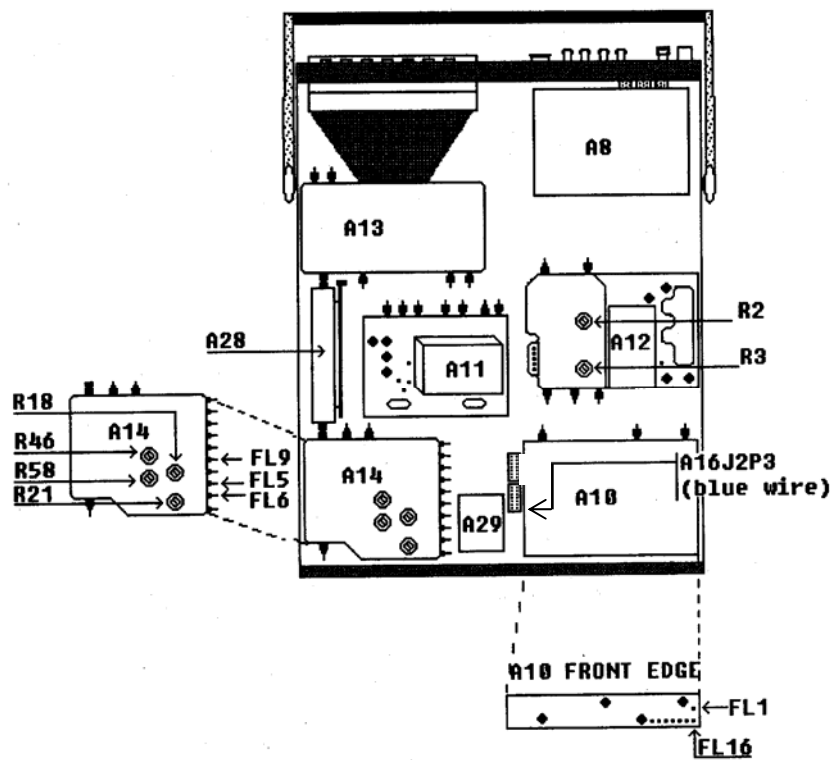

Figure 5. Test instrument - bottom view.
A12R2 and A12R3 (fig. 5) are interactive and adjustment will be extremely sensitive.
- (32) Alternately adjust A12R2 and A12R3 (fig. 5) on receiver IF module for minimum amplitude of the 1st LO signal -50 dBm maximum (R).
(4) Stand TI on end and locate power term, A14 (fig. 5) in lower left hand corner.
(5) Press **MODE MTRS** (Meters Menu) key and **DATA ENTRY 3** key (Pwr Meter (Pulse/CW)).
(6) Press **Range (F1)** and **DATA SCROLL** arrow keys to select **2 W** range, then press **DATA ENTRY ENTER** key.
(7) Connect a 50 Ω load to TI **T/R**.
(8) Connect multimeter to A14FL9 (fig. 5) RF power level output, and set multimeter to measure V dc.